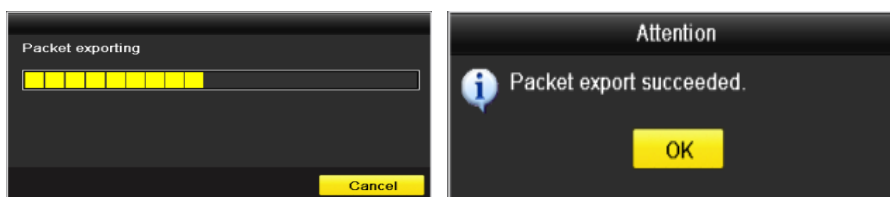

Figure 9-24 Packet Export Attention
Step 5 After the exporting is complete, click **OK** to finish the packet export, as shown in Figure 9-24.